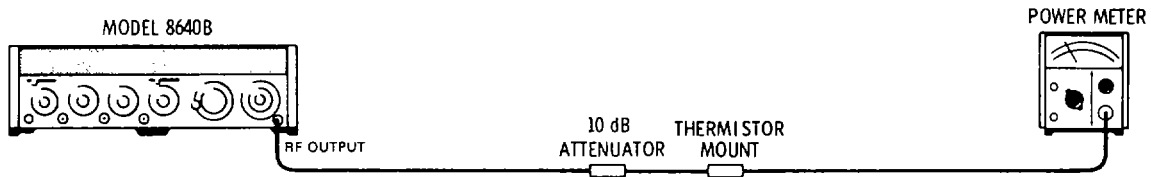

Figure 4-12. Output Level Flatness Test Setup.
1. Connect equipment as shown in Figure 4-12 after setting Signal Generator's controls as follows: